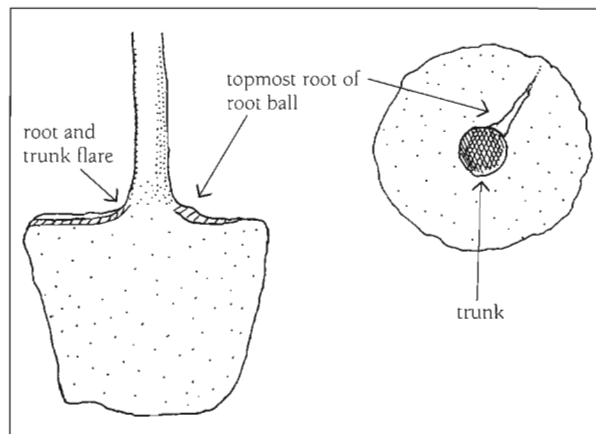

Figure 1. Flaring of the tree trunk must be evident at or very near the soil surface, and roots should radiate outward.
- ◆ For trees whose **caliper*** is 2 inches or greater, look for good trunk taper and the beginning of a root flare at or just below the soil surface (Figure 1). This indicates the development of strong lateral roots. **Root collars** can easily become buried or the soil can be piled up around them during cultivation or digging in the nursery. This makes it difficult to plant at the proper depth, and undesirable **adventitious** roots sometimes can develop at the bottom of the stem.